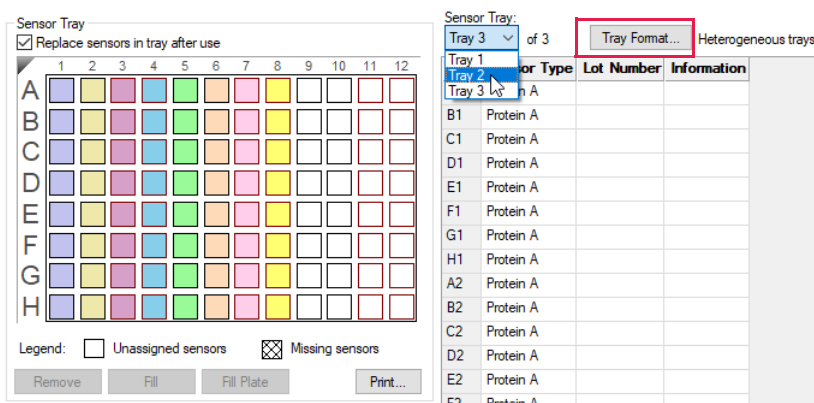

Figure 6-40: Tray Selection
The **Sensor Tray Map** and table for the tray selected will be shown and biosensor assignments can be changed as needed (see Figure 6-40).
- Click **Tray Format**, see Figure 6-40